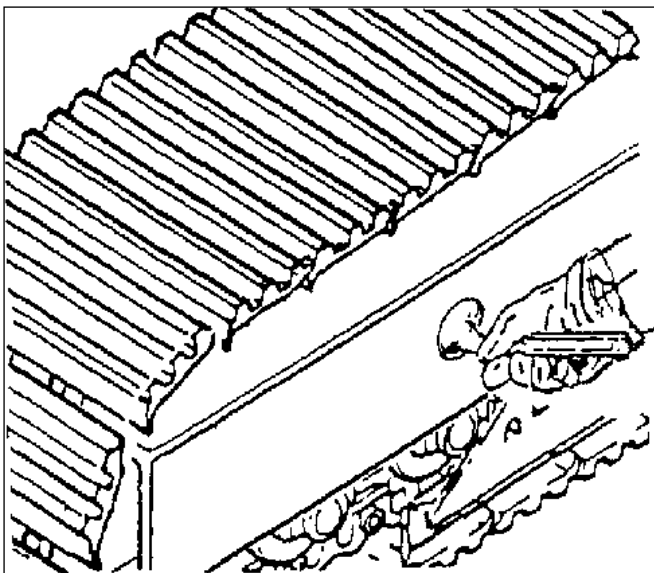

Fig. 3-5 Release track tension
1. Remove access cover plate on track side frame and loosen grease relief valve one turn maximum (fig. 3-5). If track does not loosen after opening the grease relief valve, move the machine forward and backward until tension is released, then tighten grease relief and adjust as required.